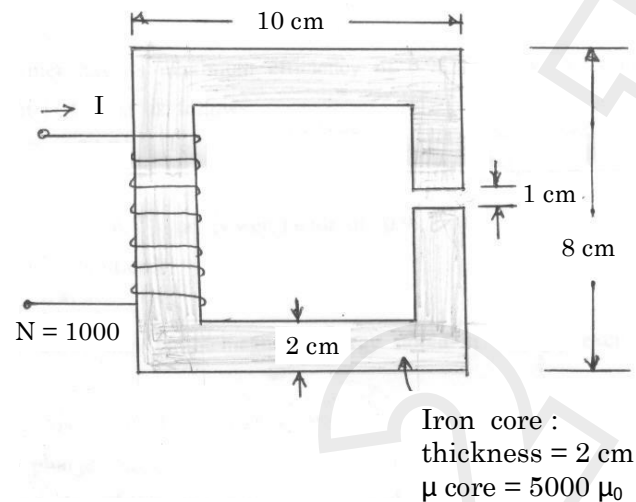

Fig. 11 (a) (ii)
11. (a) (i) Define inductance of a coil. (4)
- (ii) For the magnetic circuit shown in Fig. 11.a (ii) determine the current required to establish a flux density of 0.5 T in the air gap. (12)